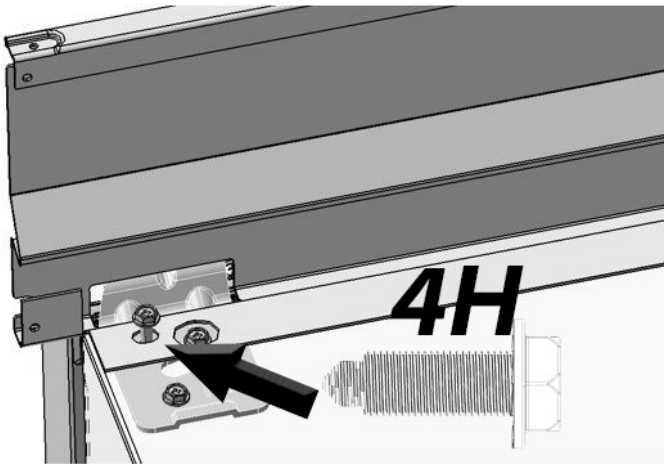

Figure 28
- d. Install top trim by fastening two 4H screws along the base of the trim with a 5/16" socket wrench (Figure 28). Screw through the 1H bracket in part (a) to properly level the Top Trim.